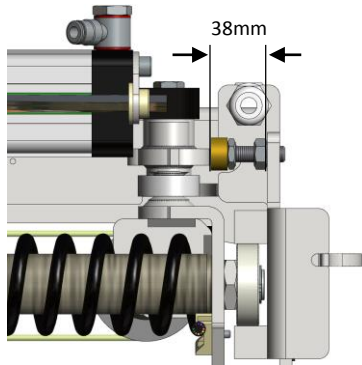
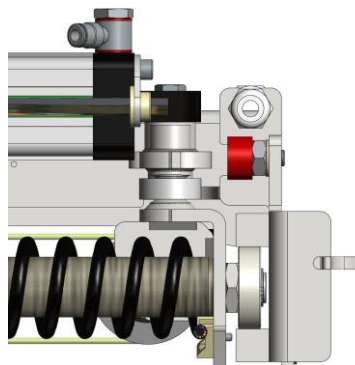

Figure 1.17: Without overcenter
Figure 1.22: New end stop electric with unlock cylinder
1.	Check if the end stop is the right distance from the frame according to Figure 1.17 - figure 1.22 depending on the situation.